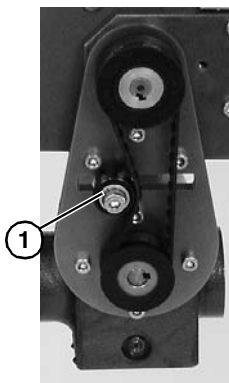

Figure 12
2. Loosen tensioner (Figure 12, item 1).